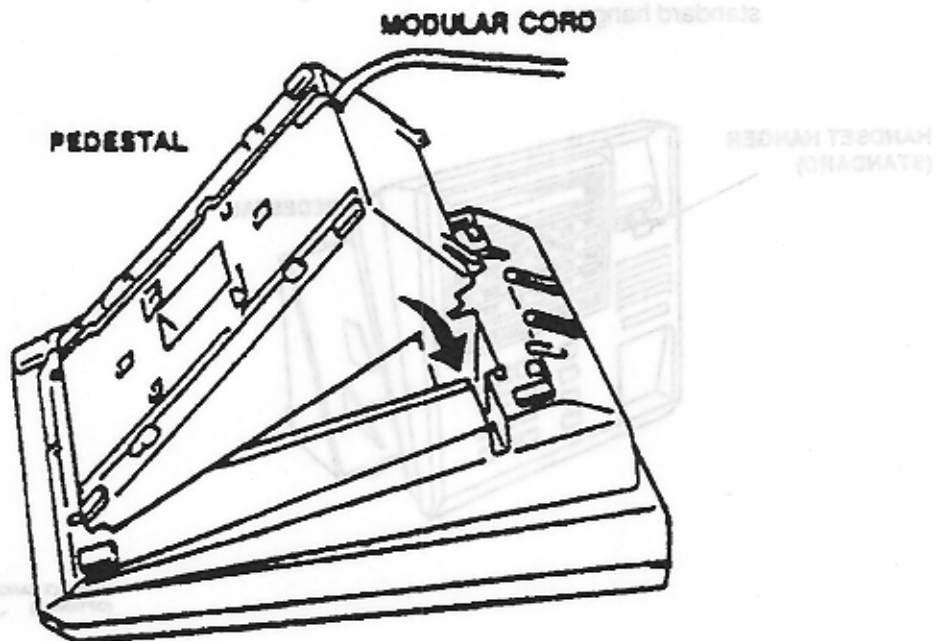

FIGURE 3-30 STATION PEDESTAL MOUNTING
2. Remove the Handset Hook from the center of the IX-STPD and insert it into the slot on the upper cradle of the key telephone as shown in Figure 3-30.
3. Insert the bottom two tabs first on the back of the key telephone, then two upper tabs as shown in Figure 3-30.